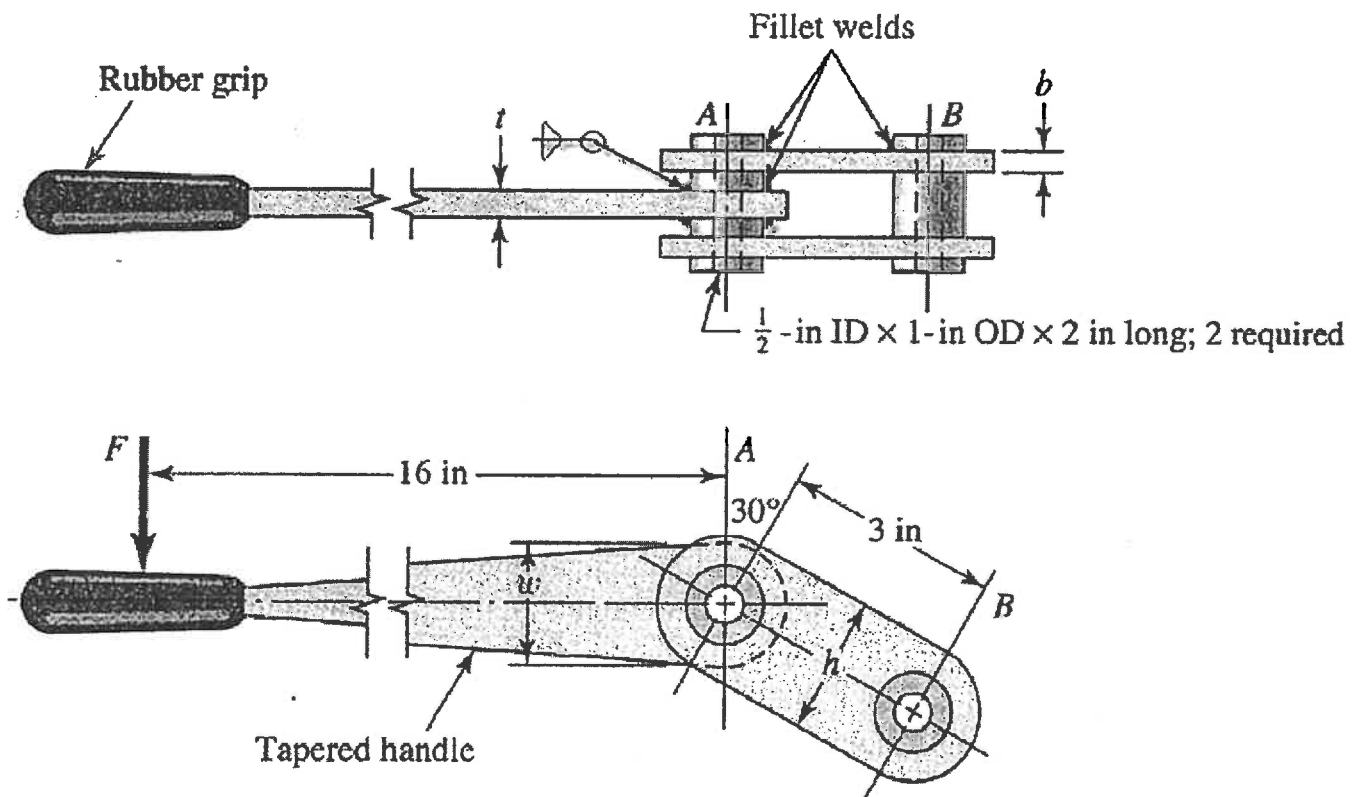

Fig. S7
- Without bracing, a machinist can exert only about 100 lbf on a wrench or tool handle. The lever shown in the Figure S7 has  $t = 0.5$  in and  $w = 2$  in. We wish to specify the fillet-weld size to secure the lever to the tubular part at A. Both parts are of steel, and the shear stress in the weld throat should not exceed 3000 psi. Find a safe weld size.